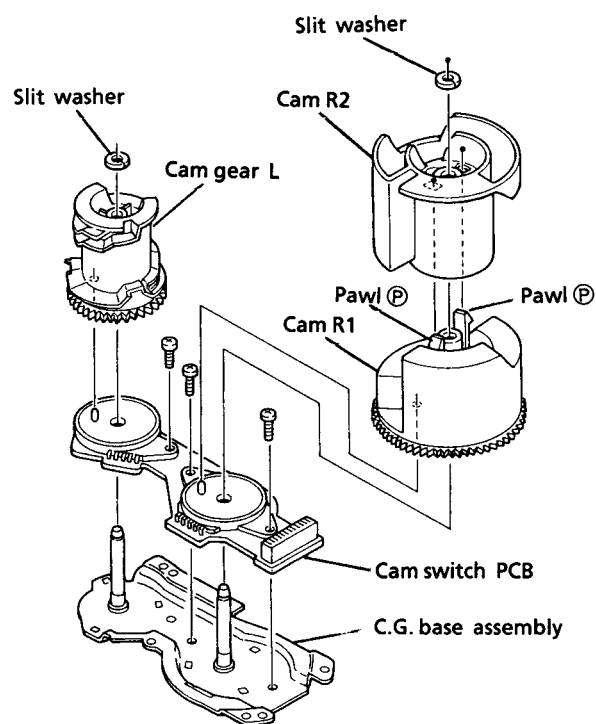

Fig. 41
(See Fig. 41.)
(27) Removal of C.G. base ass'y
Remove 3 screws ④ securing the C.G. base ass'y. (See Fig. 41 and 42.)